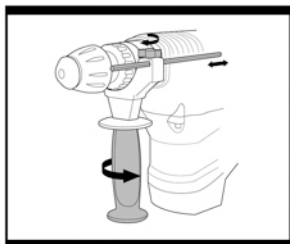

Fig. 2
Rotate the handgrip clockwise to clamp the handle and tighten fully (Fig. 2).
2. INSTALLING THE DEPTH GAUGE (Fig. 2)